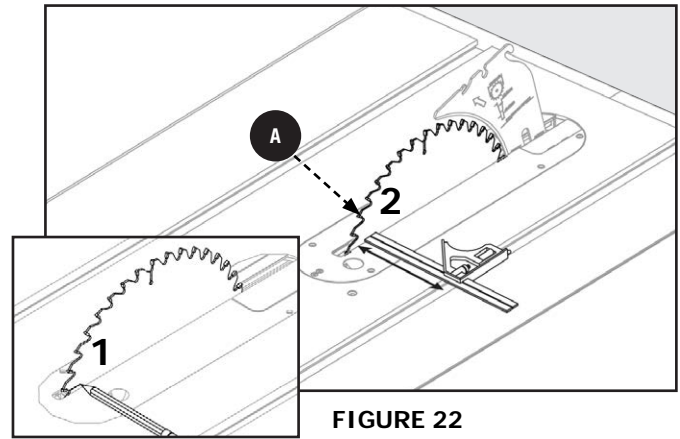
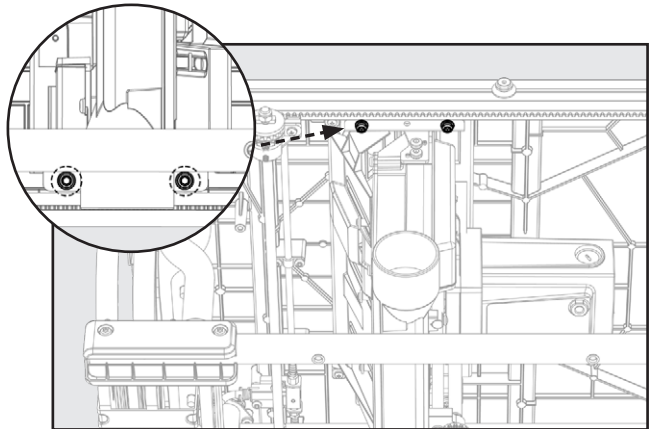

FIGURE 22
FIGURE 24
1. Mark beside one of blade teeth at front of blade **A** (Figure 22). Place a combination square even with front of saw table and side of saw blade **A** as shown.
2. Turn blade **A** so that marked tooth (1) is at back. Move combination square to the rear and again measure the distance (2). If the distances are the same, blade **A** is parallel.
3. Loosen the front trunnion bolts using a 5mm Hex Wrench, found below the table top. See Figure 24.